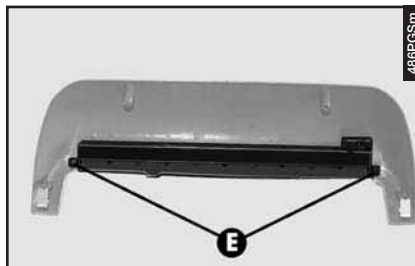

fig. 65
- Slacken the two screws (**E**-**fig. 65**) and separate the light unit from the cover.
- Refit the cover on the light unit and fasten it with the screws (**E**-**fig. 65**).